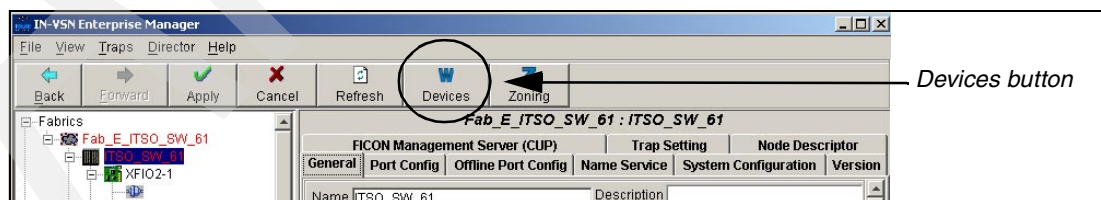

Figure 5-18 Devices button
1. Click the **Devices** button in the upper part of the EM window (see Figure 5-18).